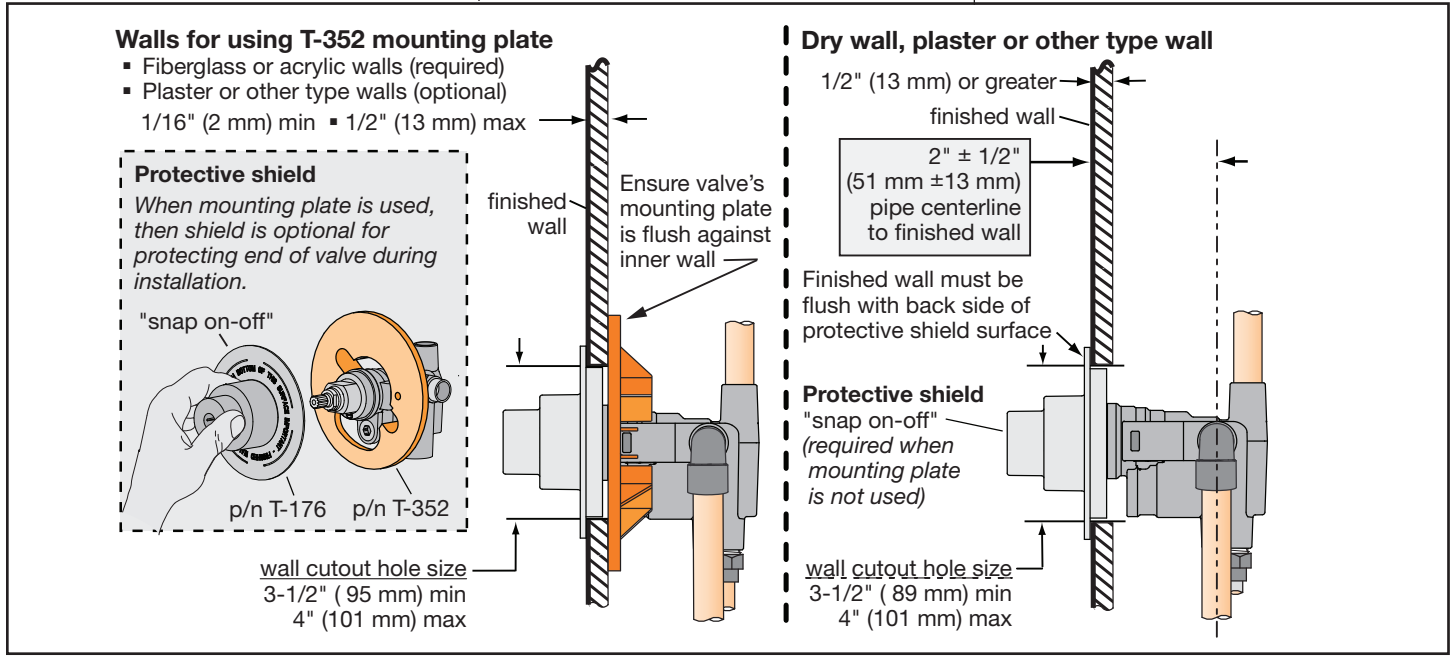

Figure 2 Mounting valve
- Consider whether to use mounting plate by reviewing figure 2 below.
Install valve through cutout hole in wall as specified in figure 2 below and dimension illustration on page 2.